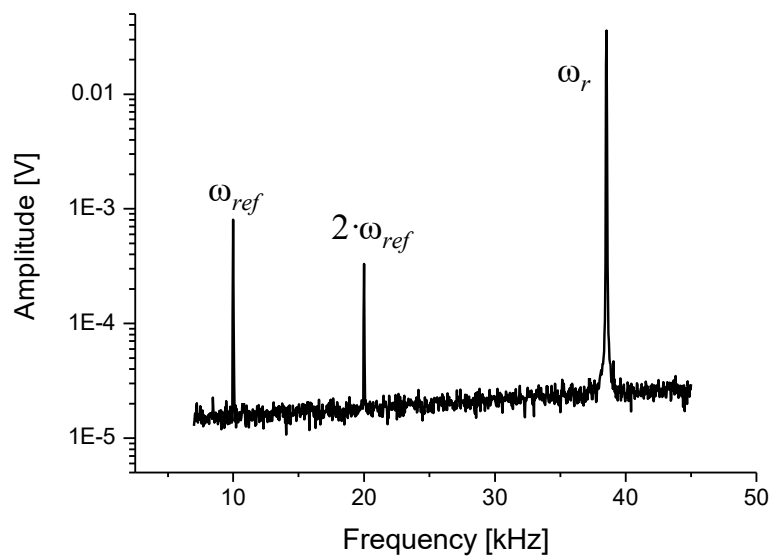

Figure 62: Frequency spectrum of the oscillating cantilever
Inserting equation (6) in (5) and using power-reduction formulae of trigonometric functions one can expect a force between tip and sample at the frequency ω_{ref} as well as at $2 \cdot \omega_{ref}$. Figure 62 confirms this prediction: It shows the frequency spectrum of the cantilever oscillation with clear signals at the mechanical excitation frequency ω_r and at the frequencies of the first and second harmonic of the electrical excitation.